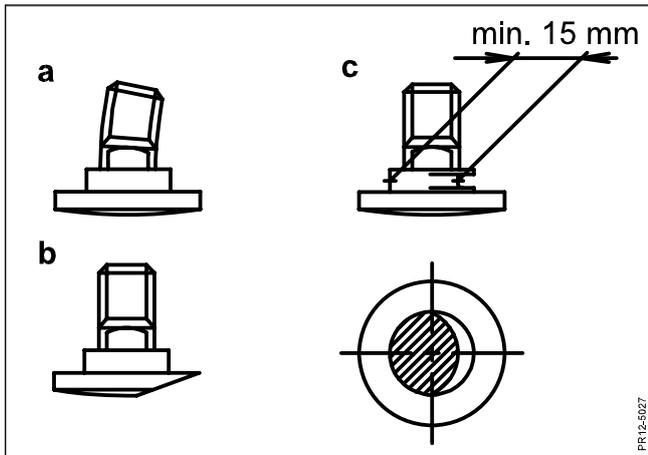

Fig. 6-6
- Fig. 6-6 Blade bolts must be replaced if: